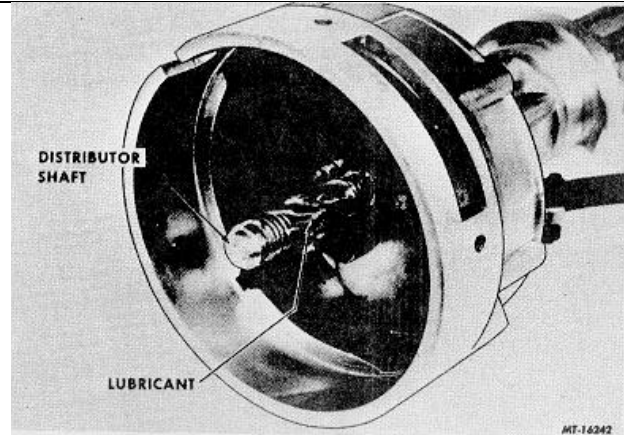

Fig. 57 Trigger Wheel Pilot Lubrication
- b. Lubricate trigger wheel assembly pilot surface of distributor shaft with distributor cam lubricant. Grooves in pilot diameter should be filled with lubricant. Lands between grooves should have only a thin film of lubricant. Reservoir in center should be filled with lubricant to depth of lands (Fig. 57).